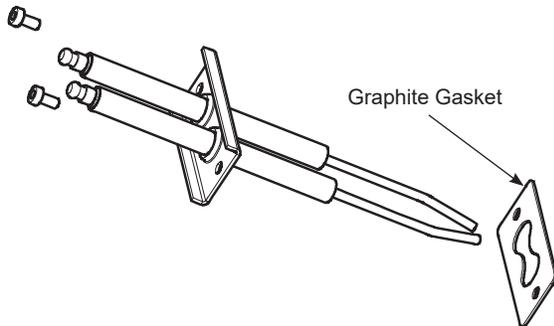

Figure 30: Ignition Electrode Assembly
- e. Install igniter as shown in Figure 30.